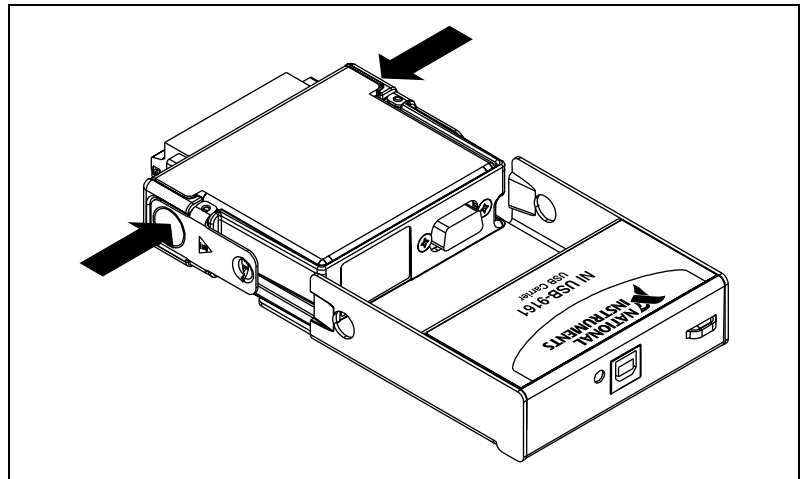

Figure 2. Module Installation
The cRIO-9211 module and USB-9161 carrier are packaged separately. Refer to Figure 2, while completing the following assembly steps:
2. Align the I/O module with the carrier, as shown in Figure 2.